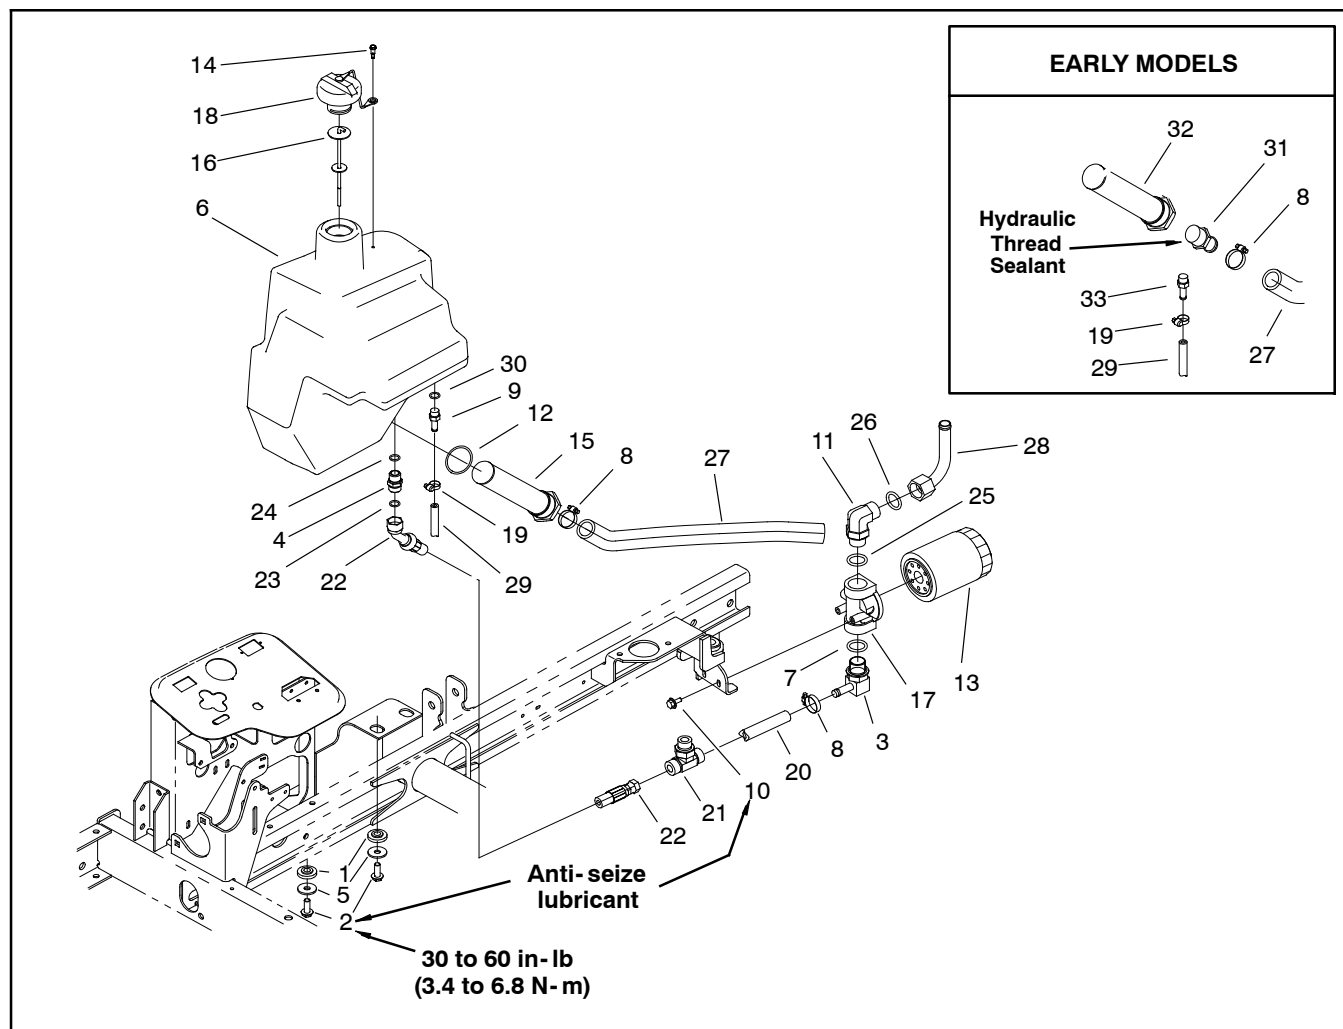

Figure 78
2. Remove hydraulic tank using Figure 78 as a guide. Discard and replace any O-rings that are removed.
Hydraulic Tank Inspection (Fig. 78)
1. Apply anti-seize lubricant or equivalent to the two flange head screws that secure the hydraulic tank. Tighten the tank mounting screws from 30 to 60 in-lb (3.4 to 6.8 N-m). Install tank using Figure 78 as a guide.